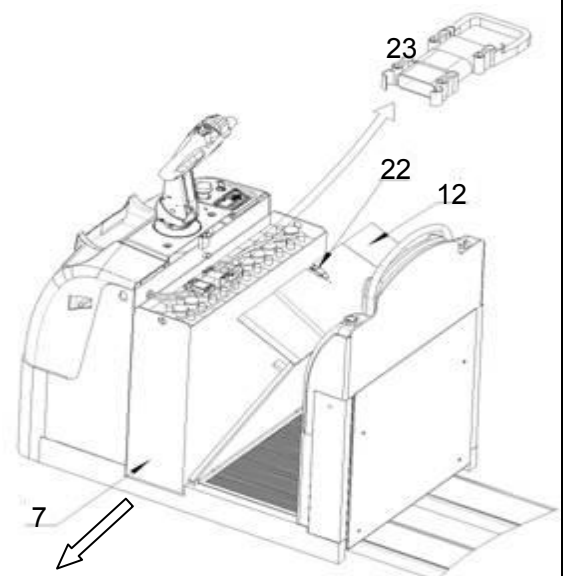

Fig. 10: Battery replacement
Park the truck securely and switch off the truck with the key switch (Fig. 1, pos. 15), and push the emergency button (3) or emergency button (14). Loosen the lock (22) and open the battery cover (12). Then remove the battery plug (Fig. 10, pos. 23), Then pull out the battery (7) according to fig. 10 to the securely parked and docked battery exchange system, if you would like to exchange to the side. If you exchange the battery to the top, you have to use dedicated lashing equipment.